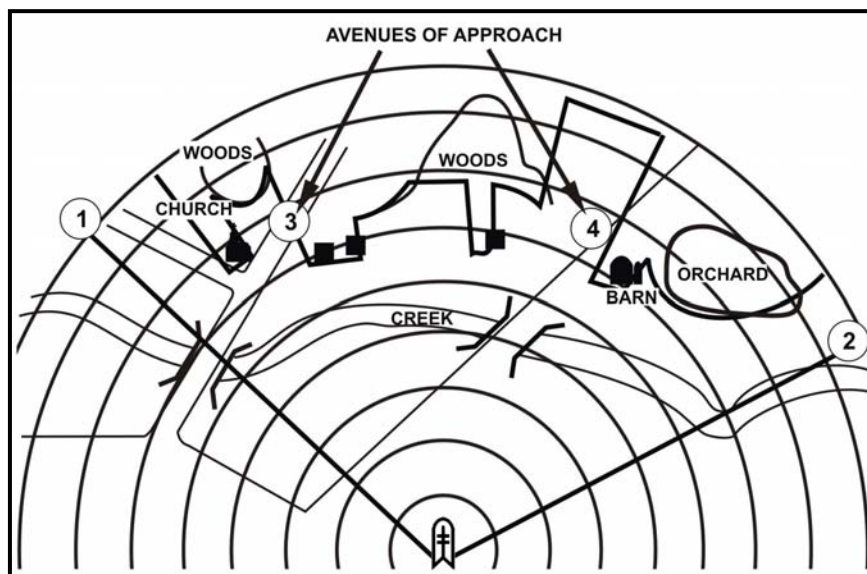

Figure D-7. Avenues of approach.
e. **Avenues of Approach.** Avenues of approach are areas where a target is most likely to appear or most likely to travel. This area can be a natural line of drift or a road. Tracked and wheeled vehicles may or may not use the same AA. Starting from the left and working to the right, number the areas where targets are likely to appear. Start with the number three since the numbers one and two have already been used to mark the left and right limits. Place a circle around each number. Continue until all identified AAs have an assigned number (Figure D-7). *Record the azimuth and distance to each AA in the data section.*